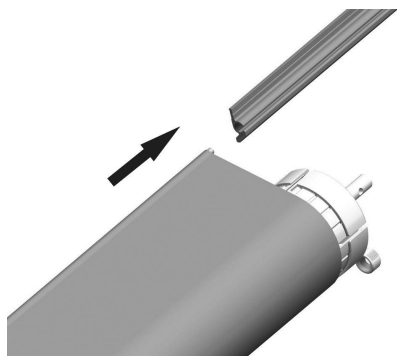
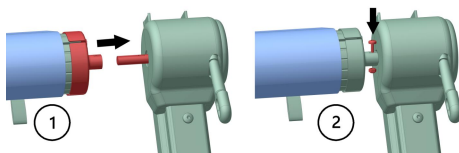

Figure D13
Figure D14
3.6 Wrap the fabric in the same direction onto the winding tube, then thread the other end of the fabric into the vehicle's fabric strip (Figure D13), and finally insert the roller assembly into the steel shaft at the top of the motor folding arm. Fix the screws to connect and fix the roller end cover to the steel shaft (Figure D14).